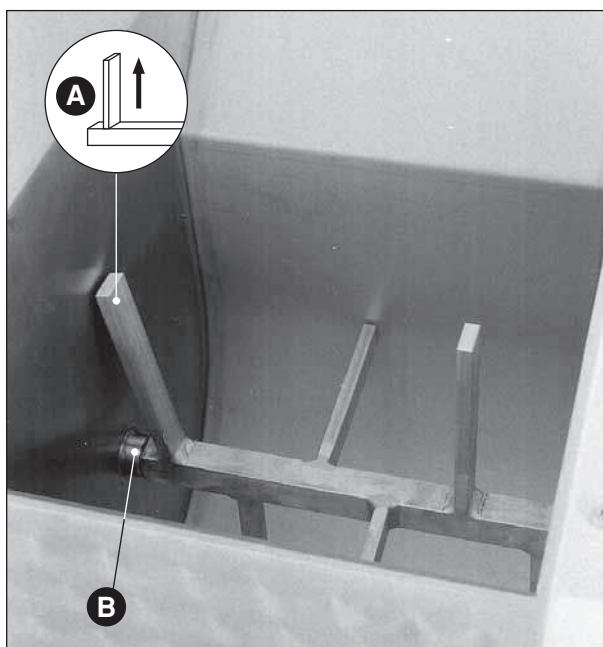

Fig. 35
- Mixer: make sure the external shovel (**Fig. 35 A**) is in the upper vertical position (only this position allows the disassembling of the piece) (**Fig. 35**).
Disassemble the mixer by unscrewing the external movable support (**Fig. 35 B**) until releasing the mixer; unthread the shaft from its place and at the same time, rotate the external pin towards the top.